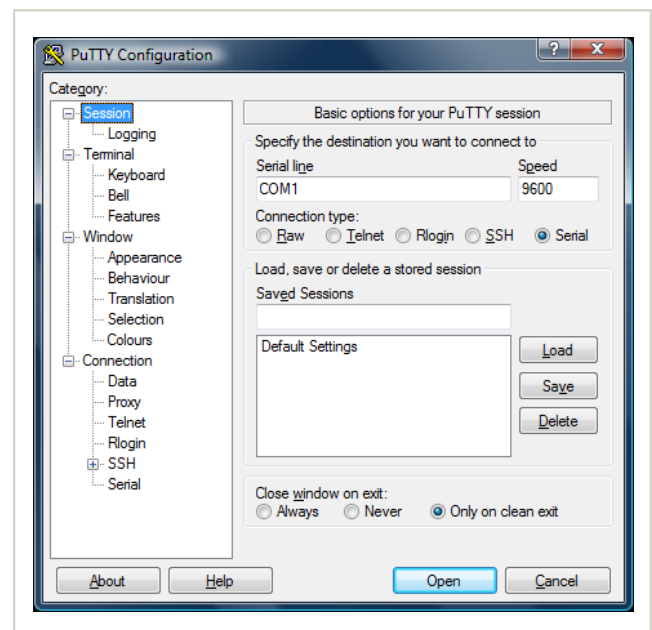

Fig.3 - PuTTY configuration setup for Programmable Home Security Alarm System
8. Download and install PuTTY on to the target computer and setup the “Serial” connection with 9600 baud rate (see Fig. 3).